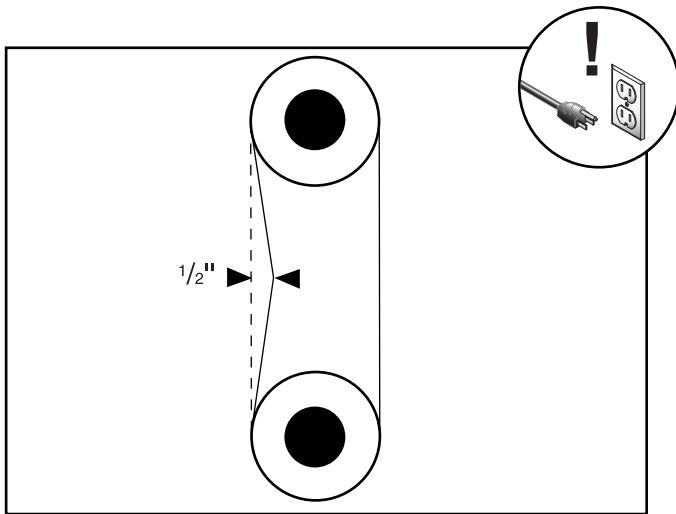

Figure 36. V-belt deflection.
- 3. Note the amount of deflection. Deflection should be approximately $\frac{1}{2}$ ", similar to Figure 36.**